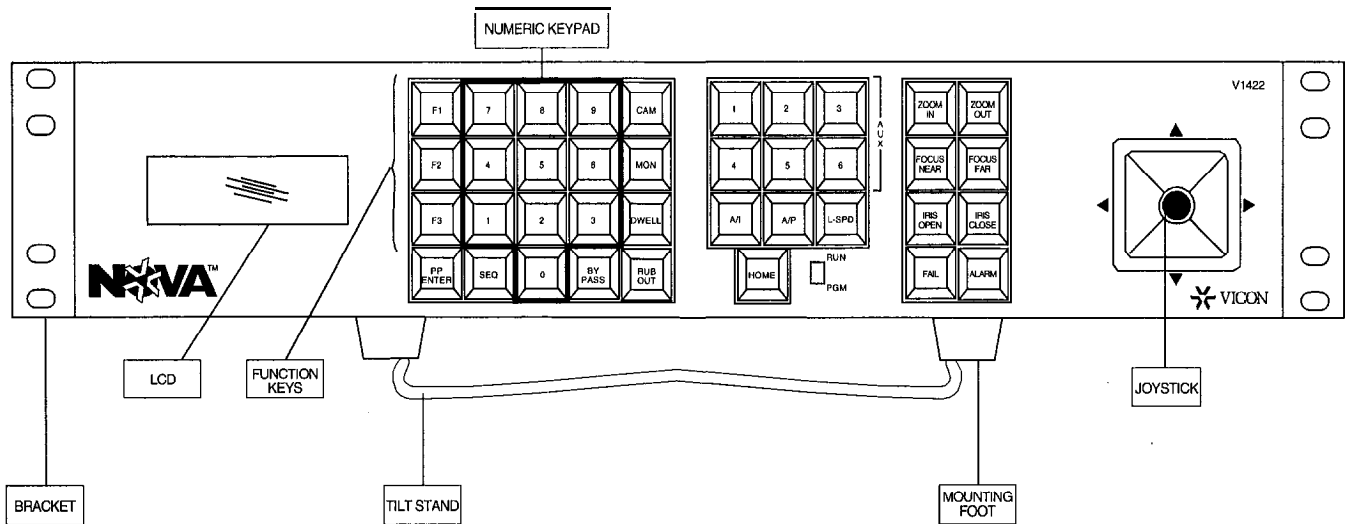

Figure 1
A subset of the V1422 control panel keys is used to specify the system configuration from menus displayed on the edit monitor. Throughout this manual, the V1422 control panel will be referred to as the local keypad. Vicon's V1300X-DVC and -RVC Intelligent Remote Control Panels and add-on PCs (personal computers with ProTech V1300X-PACP Add-On Control hardware and software installed) will be referred to as remote keypads. The functionality of the keys on the local keypad varies with the programming screens and therefore is discussed in the appropriate sections. A layout of the local keypad is shown in Figure 1.
Referring to Figure 1, set the RUN/PGM switch to PGM in order to specify the programming mode. After specifying the mode, local keys must be used in the correct sequence to access the programming screens. Perform the following steps, referring to Figure 1 for key location.
After developing the customized configuration, the editing mode should be exited in order to allow normal operation. Perform the following steps, referring to Figure 1 for key location. Note that these steps should be performed after all programming has been completed.
1. Designate the edit monitor by pressing the MON key (refer to Figure 1 for location) to increment the monitor number, referring to the upper left of the LCD.
2. Edit the camera number by pressing the SEQ key to increment or the BYPASS key to decrement. Refer to Figure 1 for the location of these keys. Refer to the upper right corner of the LCD for current camera number.
The parameters for every setting are discussed in this chapter. The Menu Path is used to show the sequence of choices used to display the menu under discussion. The last paragraph of each section typically includes Setting, Parameters, and Local Keys listings. Refer to Figure 1 for local keypad layout.